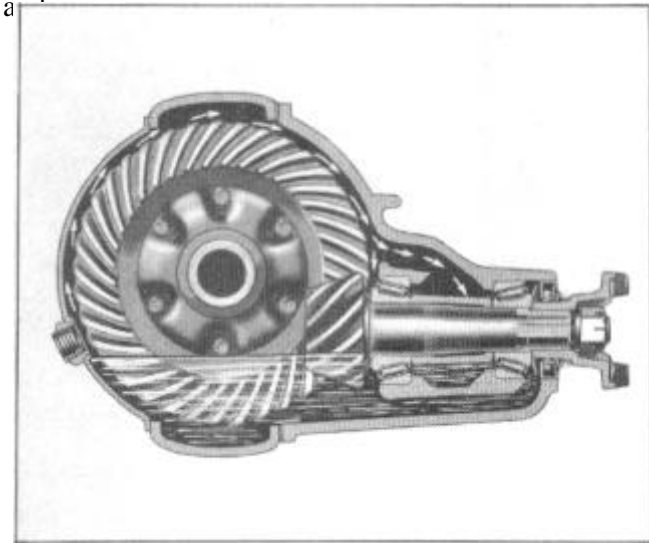

FIGURE 34
11. Fill axle to proper level (bottom of filler plug, see Figure 34) with S.A.E. #90 E.P. Hypoid lubricant, through filler hole and replace filler plug.